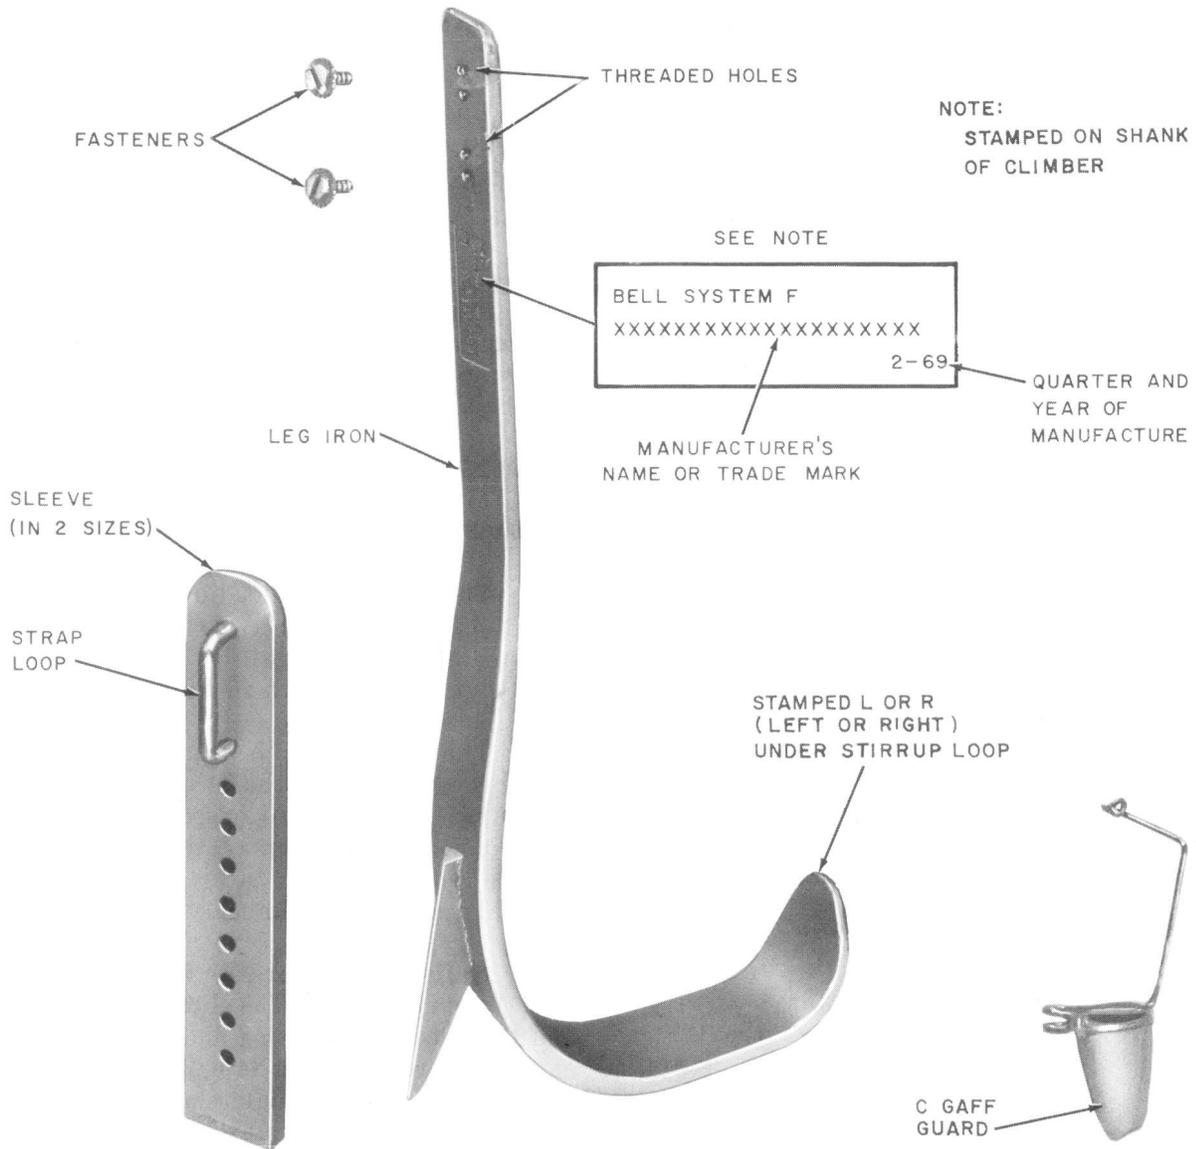

Fig. 1—Parts for F Climber
- 2.01 The F climber is an adjustable length climber that consists of a leg iron, an adjustable sleeve, fasteners and gaff guards. The parts of an F climber are shown in Fig. 1.